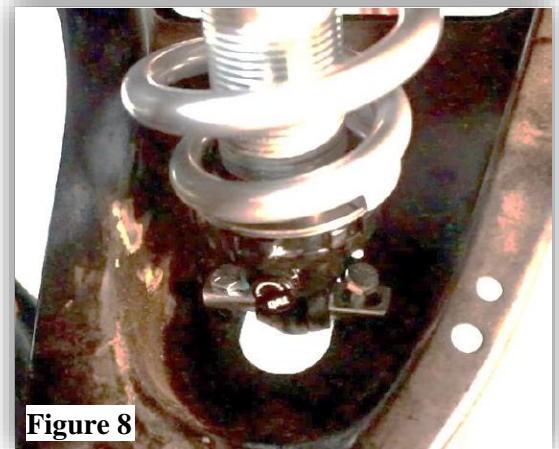

Figure 8
9. With a jack under the lower control arm, raise the lower control arm up to the lower shock mount and install the supplied 3/8" bolts. The t-bar must be mounted on the top side of the control arm. **(Figure 8)**